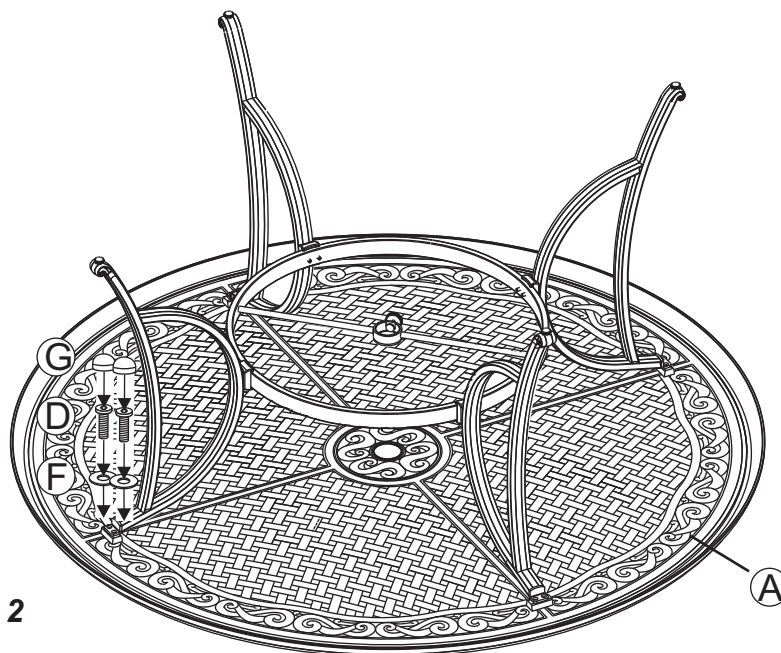

Figure 2
2 **Critical Step: The "U" metal plates must be installed in the proper location.** Read this step and carefully examine. Insert the "U" metal plate, so that the "U" bar and rocker plate are between both sides of the "U" metal plate. Make sure that the holes in the "U" metal plate are completely aligned with the holes in the "U" bar as shown in **Figure 2**. Guide the bolts through the holes on the top side of the "U" metal plate, through the holes in the "U" bar portion of the chair, through the holes in the rocker plate and then, most importantly, through the holes in the bottom side of the "U" metal plate. It is very important that the holes in the bottom portion of the "U" metal plate be placed directly beneath the holes in the rocker plate. Add a spring washer and a nut to each bolt as shown in **Figure 2**. **Hand tighten nuts 3-4 revolutions only.** Repeat the same procedure on the other side.
- 2 Place the table top upside down on a flat, non-abrasive surface. Attach a table leg to the table top by using the bolts and washers as shown in **Figure 2**. Guide the bolt through the hole in the table leg, into the pre-drilled holes in the table top. **Hand tighten only 2-3 turns**. Repeat for the other three legs.